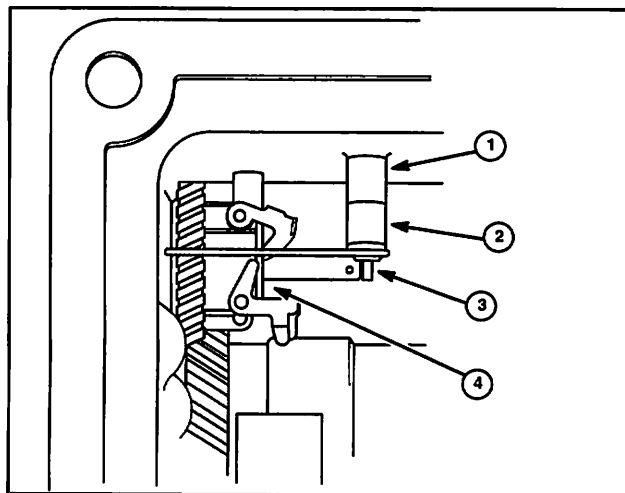

Fig. 37
230000, 240000, 300000, 320000 (Fig. 37)**
1. Assemble governor gear (4) and cup assembly on governor shaft in cylinder.
2. Slide governor crank (and spacer, when used) through bushing from inside cylinder, Fig. 37.